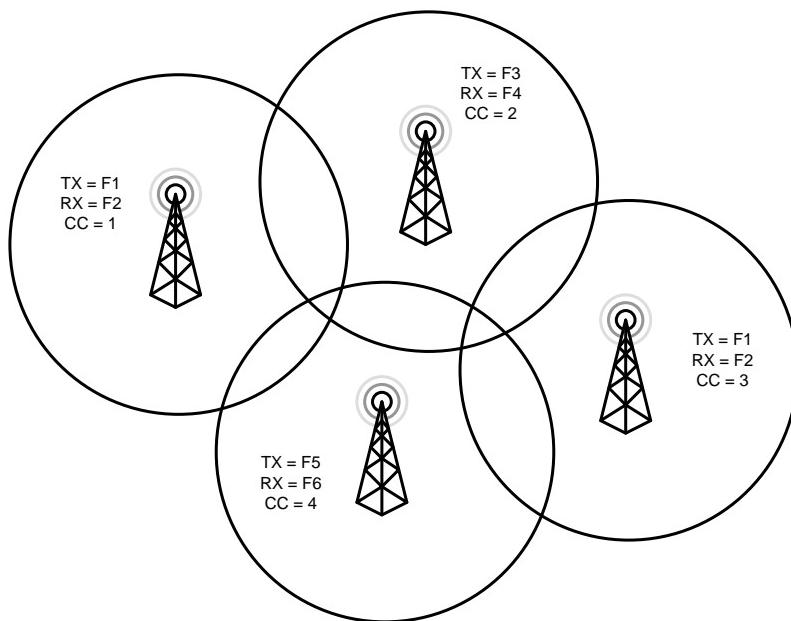

Figure 2-8 Dense Overlapping Coverage (Urban)
1. **Dense Overlapping Coverage (Urban)** – This type of RF coverage consists of sites located close to each, which necessitates utilizing different frequencies for the neighboring sites; refer to Figure 2-8. The non-overlapping sites may reuse the frequencies. A radio user transitions from one site to another within 10-15 minutes.